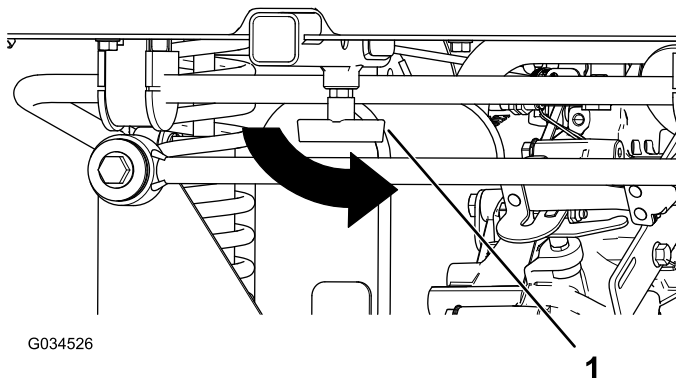

Figure 8
8. Tighten the “T” handle on the receiver tube (Figure 8).